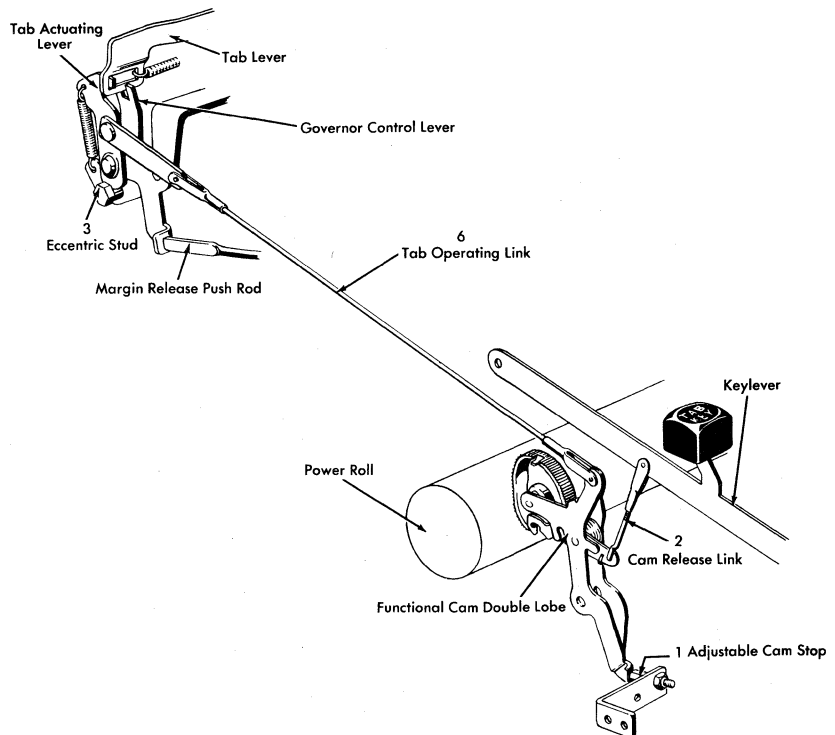

Figure 41. Tab Adjustments
1. The cam stop adjustment must permit the cam to clear the power roll enough so that, when the cam is tripped with the power off, the cam release lever falls on the rear half of the cam lug (Figure 41).
2. Adjust the cam release link so that the cam is released when the key-lever is depressed $\frac{2}{3}$ of its downward travel (Figure 41).
3. Adjust the tab lever height by using the eccentric stud under the tab actuating lever so that the margin control lever clears the bottom of the margin rack by .010" to .015" (Figure 41). This adjustment is also listed under "Margin Release."